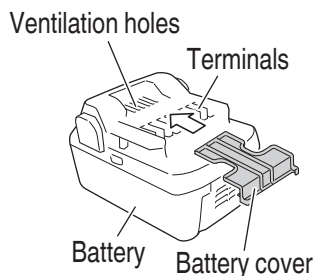

Fig. 1
- Either install the battery in the appliance or store by securely pressing into the battery cover until the ventilation holes are concealed to prevent short-circuits (See Fig. 1).